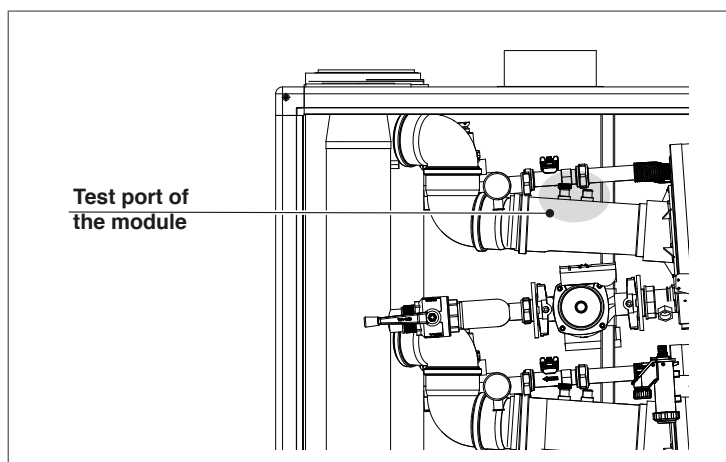

Fig. 15 Test Port for Combustion Analysis (available on each module)
- Insert a combustion analyzer probe into the test port shown in Fig. 15